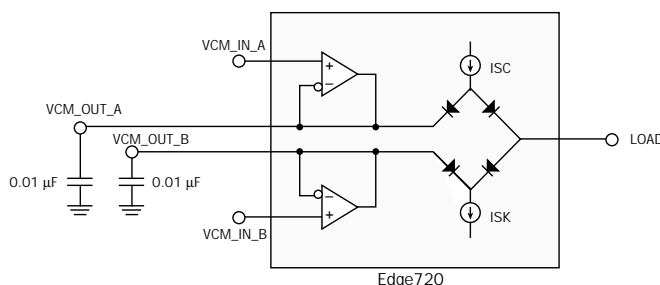

Figure 16. Edge720 Load Circuit Connected as a Programmable Voltage Clamp
as a transmission line termination scheme to minimize the reflections caused by an unmatched line. Using the Edge720 load circuit in this configuration offers a superior clamping solution to the more traditional voltage controlled diode clamp method. To configure the Edge720 load circuit as a programmable clamp, the load circuit should be configured as in Figure 16. The 0.01 μF bypass capacitors shown in Figure 16 are needed to supply current to the diode bridge during fast transients. These capacitors should be placed as close to the VCM_OUT_A(B) pins as possible to ensure stability and quick response to fast transitions on the LOAD output pin.